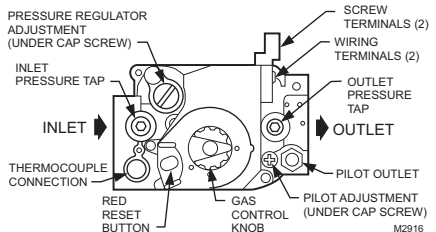

Fig. 4. Top View of Gas Control.
6. Connect pipe to control inlet and outlet. Use wrench on the square ends of the control. If a flange is used, place wrench on flange rather than control (Refer to Fig. 4 and 5).
3. Unscrew brass compression fitting from the pilot outlet (Fig. 4). Slip the fitting over the tubing and slide out of the way.
2. Connect control circuit to gas control terminals. Refer to Fig. 4 and 8.
1. Remove pilot adjustment cover screw. Refer to Fig. 4.
2. With main burner operating, check gas control flow rate using the meter clocking method or pressure using a manometer connected to the outlet pressure tap on the gas control. Refer to Fig. 4.